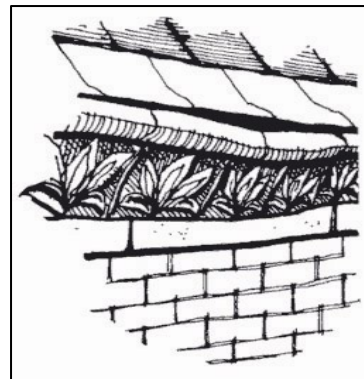

Figure-13. Deteriorating Façade Feature.
- Parts that may fall and injure people or property, such as a deteriorating lentil or dentil (Figure-13).